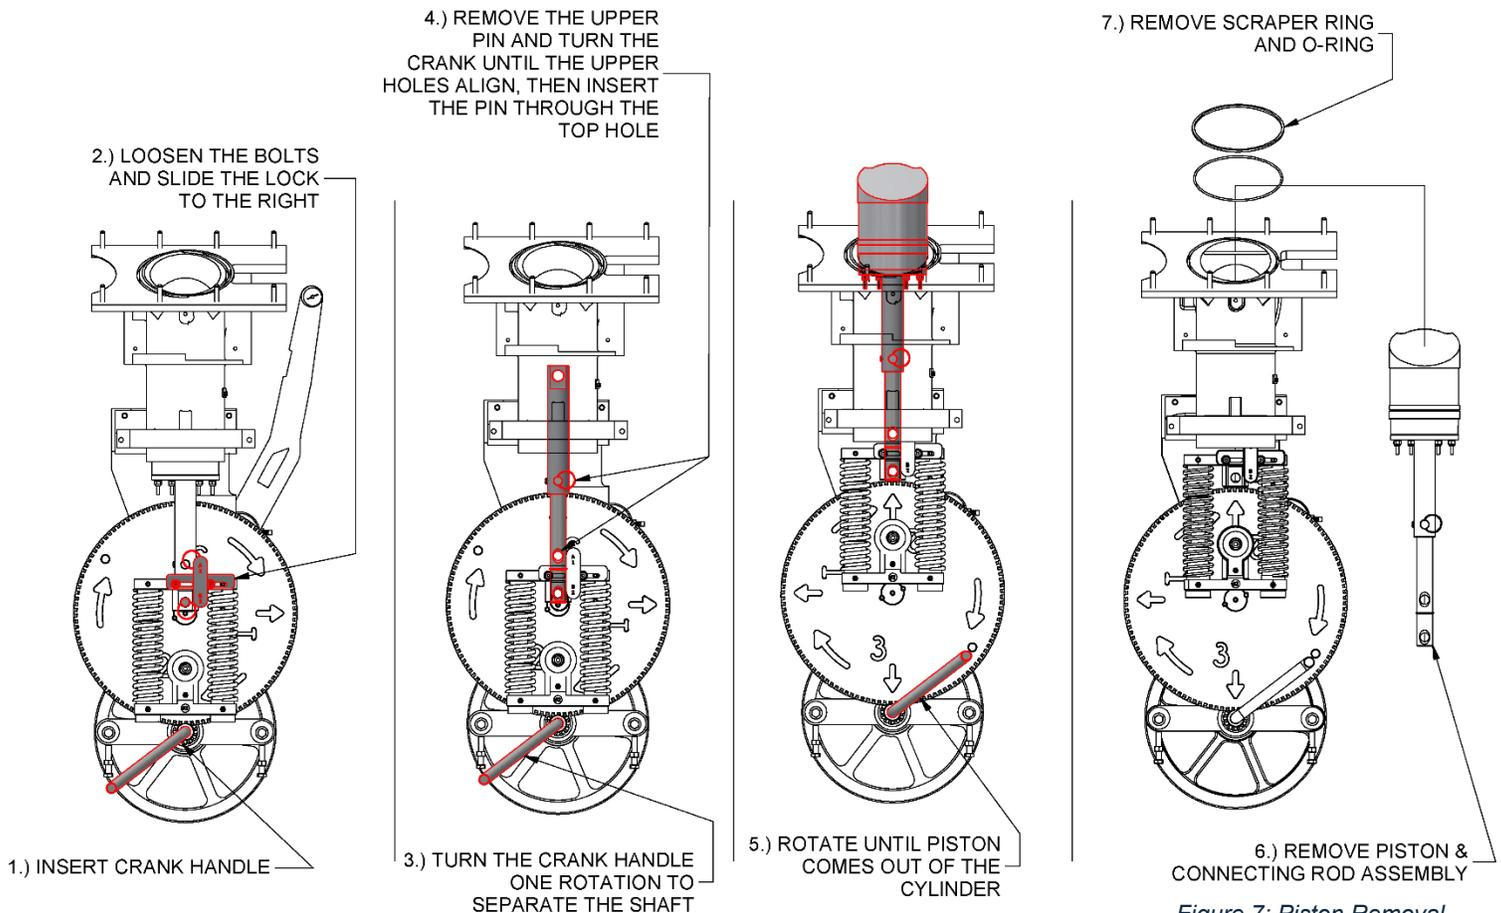

Figure 7: Piston Removal
- Ensure that any excess dough is removed from face of the cylinder and that the scraper ring and O-ring that were removed in Step 7 (Figure 7 above) have been cleaned.